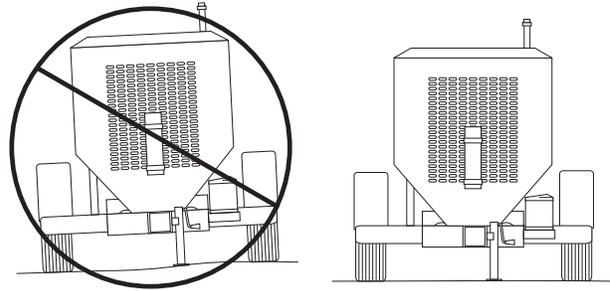

**Figure 15. Locating Rear Stabilizer Jacks**
1. Locate both the left and right rear stabilizer jacks (Figure 15).